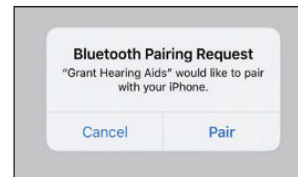

Figure 3. Pairing request window
- 6 A pairing request window will appear for each device. Select **Pair*** (Fig.3).